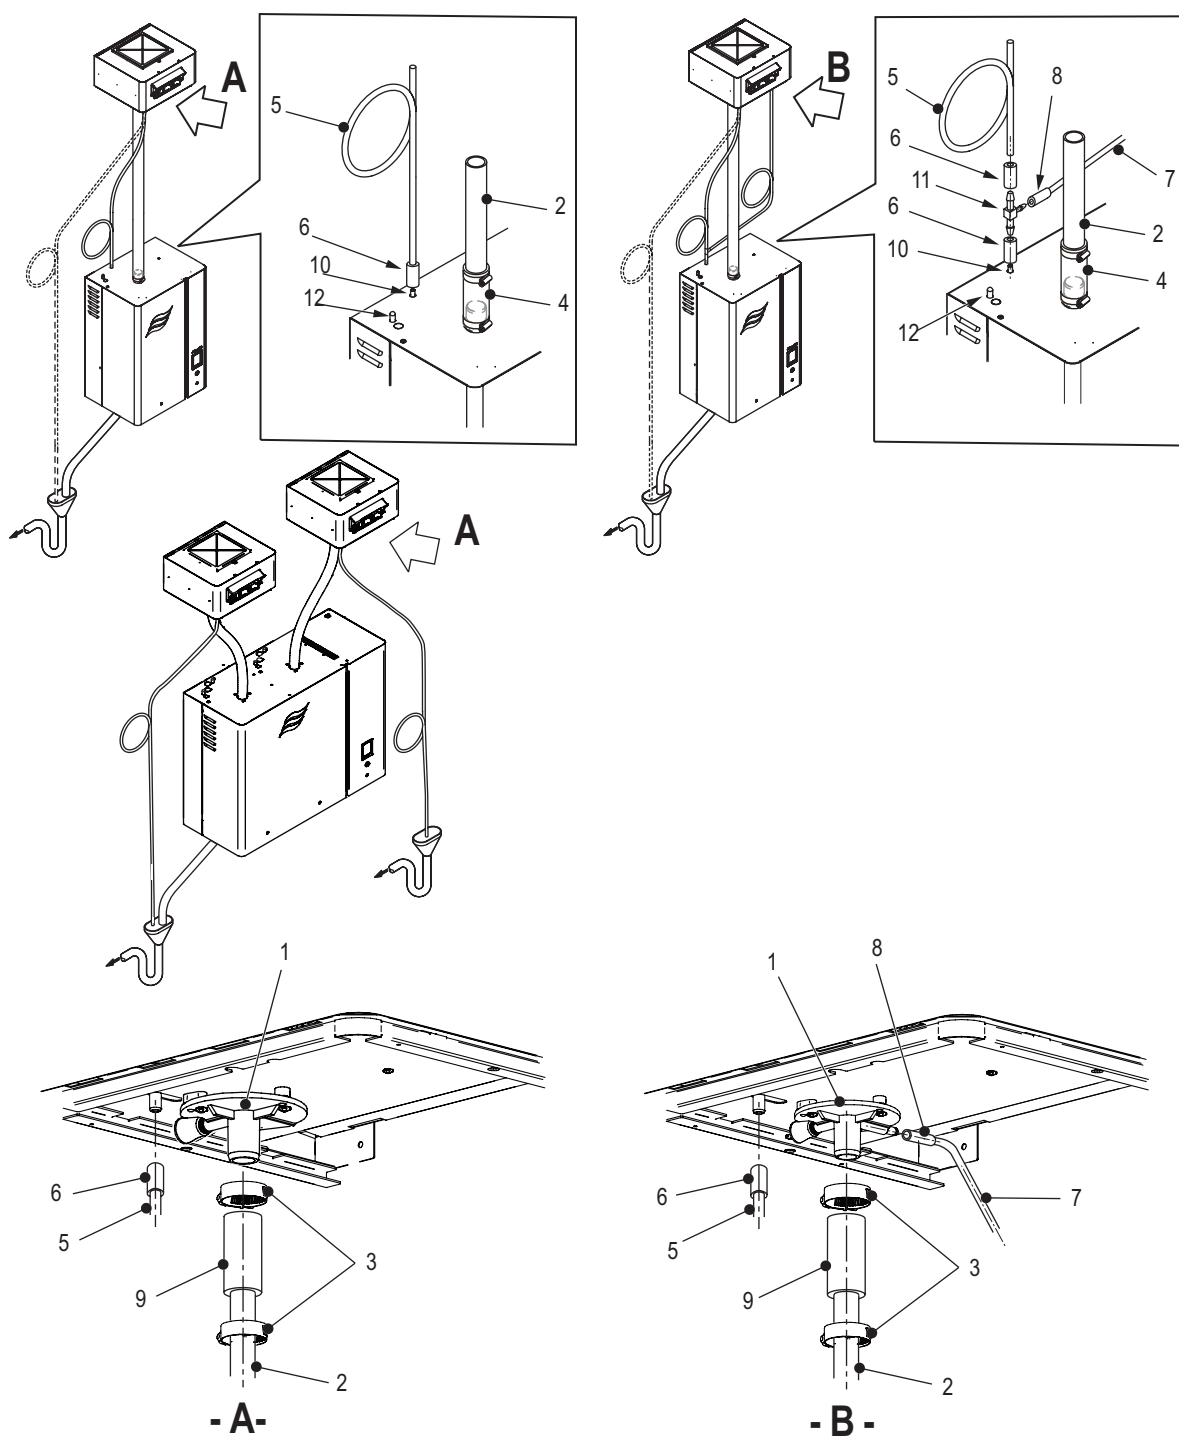

Figure 10: Steam and Condensate Line Connections on Nortec BP. A - Large, B - Small.
- Plumb the steam line (supplied by others) and connect it to the steam adaptor on the Nortec BP with a short length of bulk steam hose and two hose clamps (supplied). Refer to Figure 10 on page 29. If using a Condair steam hose, connect it to the steam adaptor with a hose clamp (supplied). Do not over-tighten the hose clamps – maximum torque is 16 in·lbs (180 N·cm).
- Connect the condensate line from the Nortec BP-Series blower pack to any of the following drain connections. Refer to Figure 10 on page 29.
- For a 7/8 in (22.5 mm) steam adaptor:** connect the 3/8 in (9.5 mm) and 3/16 in (4.5 mm) condensate lines to a tee connector with short lengths of bulk hoses and spring clamps. Ensure that the tee connector is installed after the condensate traps, and connect the tee connector to any of the locations listed above. Refer to Figure 10 on page 29.
- Connect the other end of the steam line to the steam outlet on the humidifier with a short length of bulk steam hose and two hose clamps. If using a Condair steam hose, connect it to the steam outlet with a hose clamp (supplied). Refer to Figure 10 on page 29. Do not over-tighten the hose clamps – maximum torque is 16 in·lbs (180 N·cm).